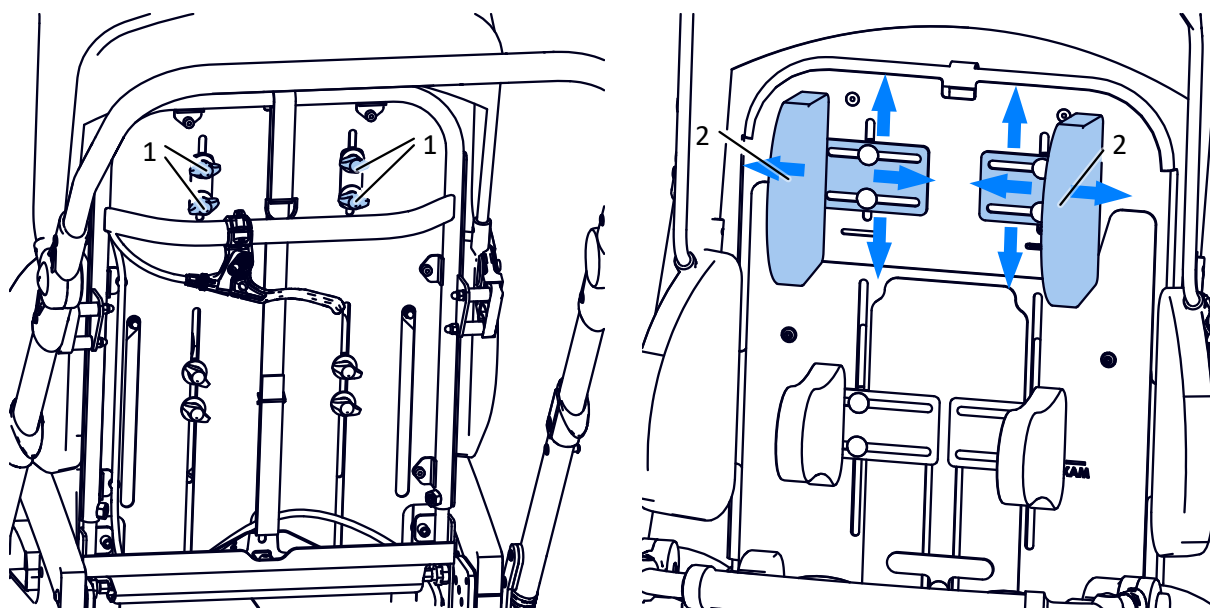

Fig. 19
In order to adjust the head supports (2) loosen the knobs (1) Fig. 19 and then set the desired position of the head supports and retighten the knobs (1) in order to block the movement of the head supports. Position of the right and the left head support is independent, and these chest supports may be set individually.